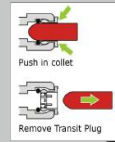

Fig 1
- Remove all transit plug from the the rear of the unit (Fig 1)